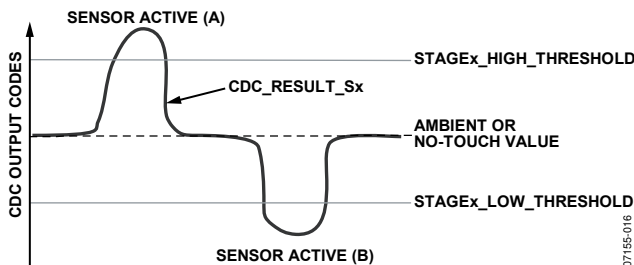

Figure 17. Sensor Activation Thresholds
On-chip threshold limits are used to determine when sensor activation occurs. Figure 17 shows the change in CDC_RESULT_Sx that occurs when a user activates a sensor. The sensor is deemed to be active only when the value of CDC_RESULT_Sx is either greater than the value of STAGEx_HIGH_THRESHOLD or less than the value of STAGEx_LOW_THRESHOLD.
In Figure 17, two different sensor activations are shown. Sensor Activate (A) occurs when a sensor is connected to the positive input of the converter. In this case, when a user activates the sensor, there is an increase in the CDC code, and the value of CDC_RESULT_Sx exceeds the value of STAGEx_HIGH_THRESHOLD. Sensor Active (B) occurs when the sensor is connected to the negative input of the converter. In this case, when a user activates the sensor, there is a decrease in the CDC code, and the value of CDC_RESULT_Sx becomes less than the value of STAGEx_LOW_THRESHOLD.